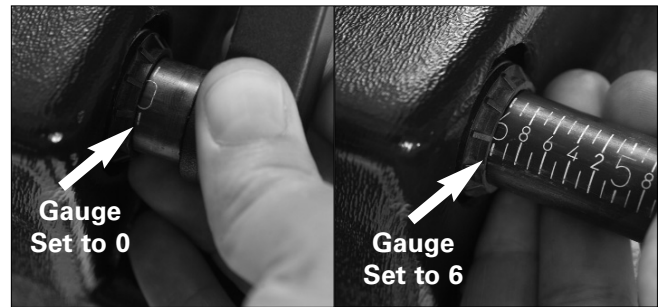

Figure 48 - Distance Arm Calibration
**Note:** Position the gauge as shown in figure 48.